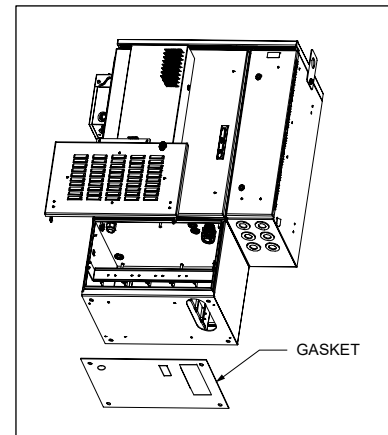

Figure 6
3. Install the gasket by positioning it on the pad so that it is underneath the bottom of the CUBE when the cabinet is installed. Line up the gasket so that the cutouts are in proper position around the conduit opening and the bolt holes as shown in Figure 6.